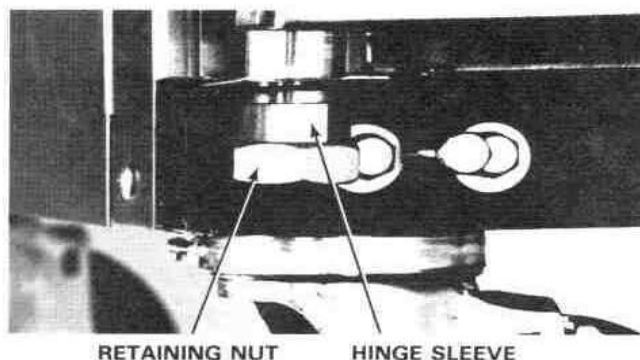

Figure 22
- A. Using the 10" (25 cm) adjustable wrench, loosen the retaining nut located at the bottom of the brass hinge sleeve. (See Figure 22)
- B. Using the 10" (25 cm) adjustable wrench, turn the brass hinge sleeve COUNTERCLOCKWISE to raise the door. (See Figure 22)
- B. Using the 10" (25 cm) adjustable wrench, turn the brass hinge sleeve CLOCKWISE to lower the door. (See Figure 22)